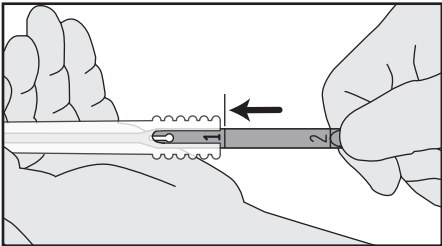

Figure 8
6. Push the inserter into the Loading Tube until mark line 1 is level with the edge of the loading tube (Fig.8). The Provox2 voice prosthesis is now prepared for placement.